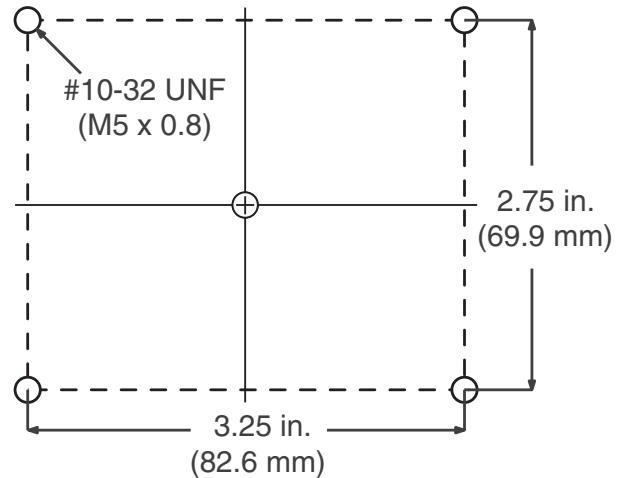

Fig. 23: CGM Mounting Holes
4. Drill the mounting holes using the mounting hole dimensions shown in **Fig. 23**.